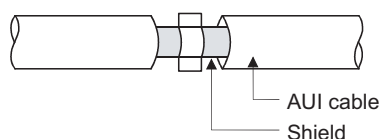

Figure 9.5 AUI cable grounding
- Be sure to ground the AUI cables^{*1} connected to the 10BASE5 connectors. Since the AUI cable is of the shielded type, ground the exposed shield section of the cable, where the cable jacket was partly removed as shown in Figure 9.5, on the widest contact surface.